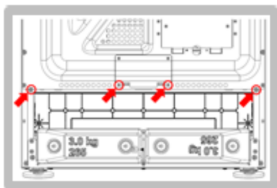

Fig. 1
1. Remove cooker - require access from the back of the product. Unscrew 4 screws from as marked in the drawing (see figure 1).